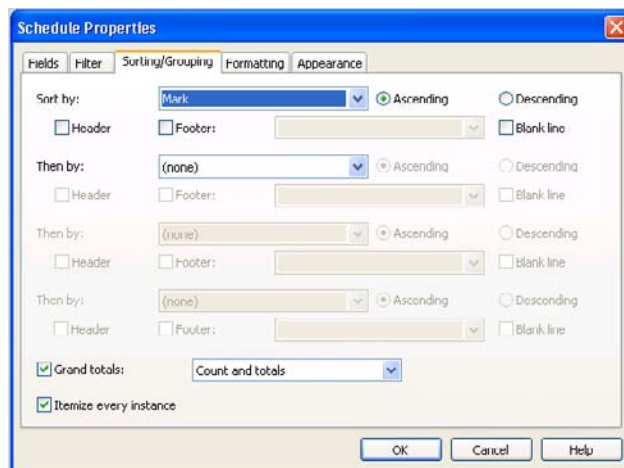

Figure 12.12
5. Click OK, and you will be taken to a view of the schedule (Figure 12.12). Save the file for use in the following sections.